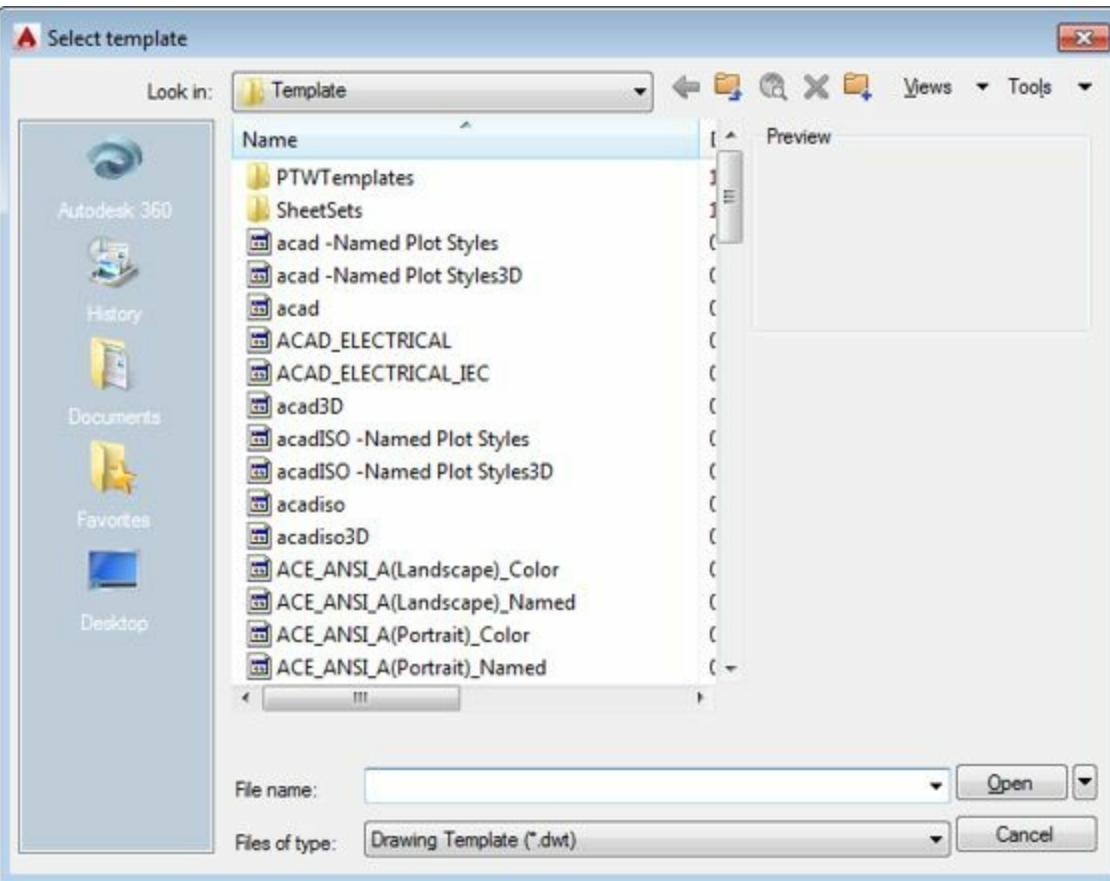

Figure-24. Select Template dialog box
- Click on the **Browse** button to select a file as template. The **Select template** dialog box will be displayed; refer to Figure-24.